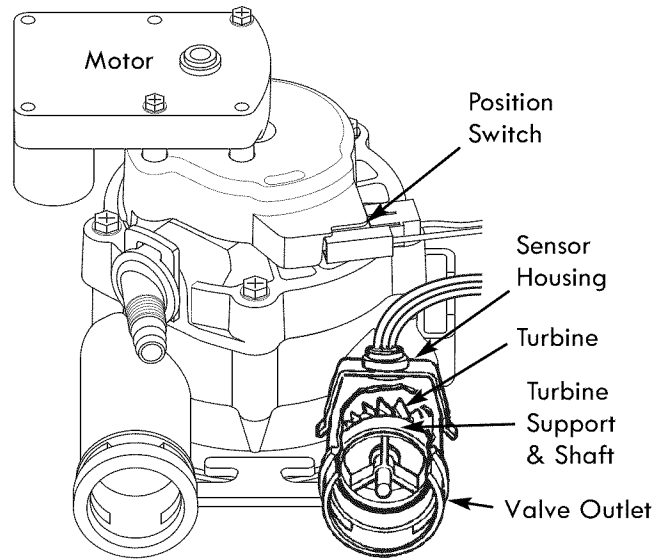

Figure 45
**TURBINE OPERATION:** If no water is flowing through the softener, the turbine indicator displays three zeros. When water is flowing, a 000 to 199 count repeats for each gallon of water passing through the turbine. To check for positive operation of the turbine if zeros are shown, open a nearby soft water faucet and observe the turbine count. If you don't get a reading in the display with faucet open, pull the sensor housing from the valve outlet port (see Fig. 45). Pass a small magnet back and forth in front of the sensor. You should get a reading in the display. If you get a reading, unhook the inlet and outlet plumbing and check the turbine for binding.